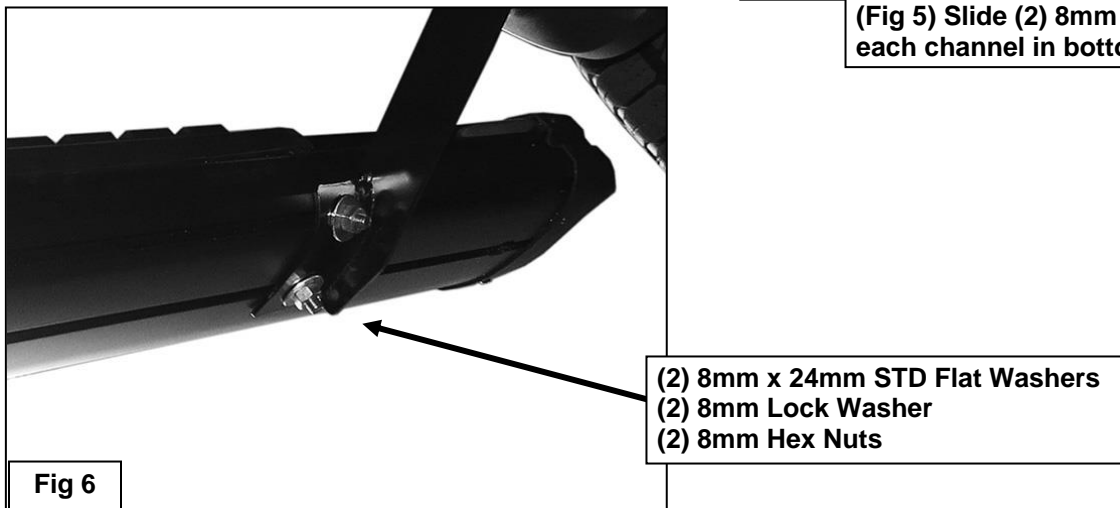

Fig 6
8. Line up the front of the Sidebar approximately 2" back, (or locate as desired), from the front wheel opening. Attach the Sidebar to the Mounting Brackets with (6) 8mm Flat Washers, (6) 8mm Lock Washers and (6) 8mm Hex Nuts, **(Figure 6)**. Do not tighten hardware at this time.